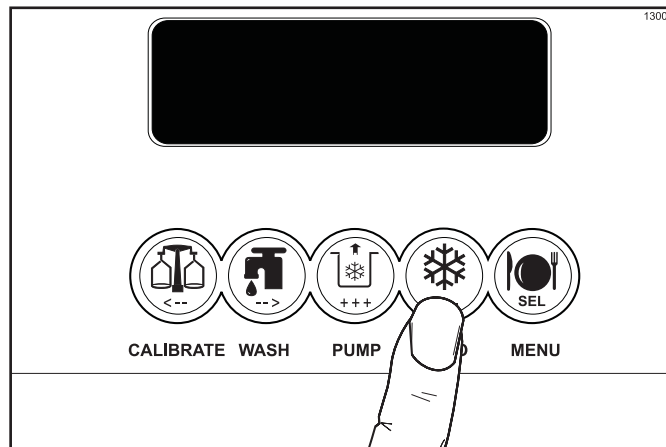

Figure 6-42
4. Press the AUTO key. (See Figure 6-42.)